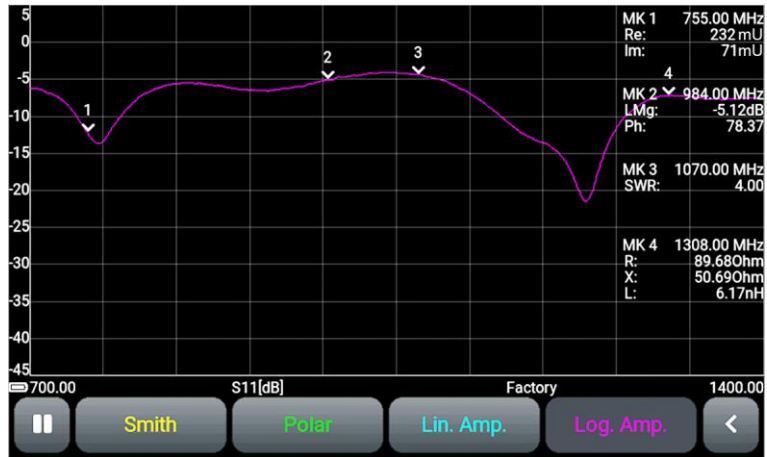

Figure 10.9 - Logarithmic plot of the magnitude (mode S11)
10.5.1. The plot shows the dependence of the magnitude of the RC and TC on the frequency in logarithmic scale, in dB (Figure 10.9.). Vertical scale of the plot is displayed in dB